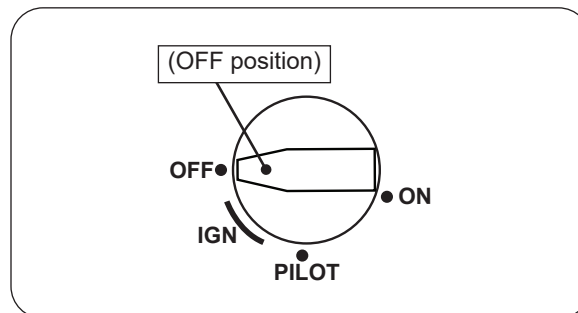

Fig. 32-2 Pilot shut down
2. Locate the valve on the side of the unit. Push in the ignition knob slightly and turn clockwise to **OFF** (see Fig. 32-2).
Push in the ignition knob slightly and turn clockwise to **OFF**. Do not force. See Fig. 32-2.